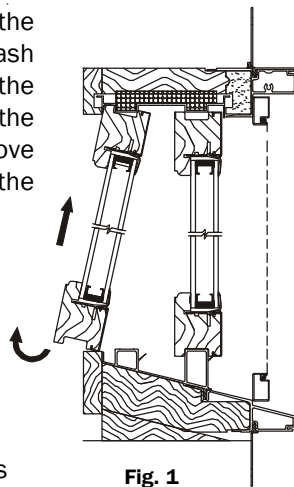

Fig. 1
1. Remove the existing sash from the window by moving the interior sash horizontally to the **midpoint** of the frame. While holding one side of the sash in each hand, lift up and move the bottom of the sash toward the interior. When the bottom of the sash is clear, the sash can be lowered and removed from the window. Fig. 1